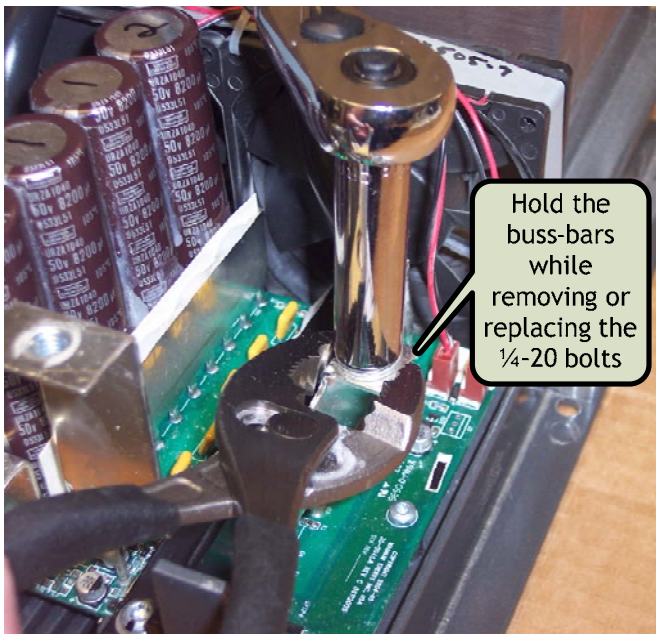
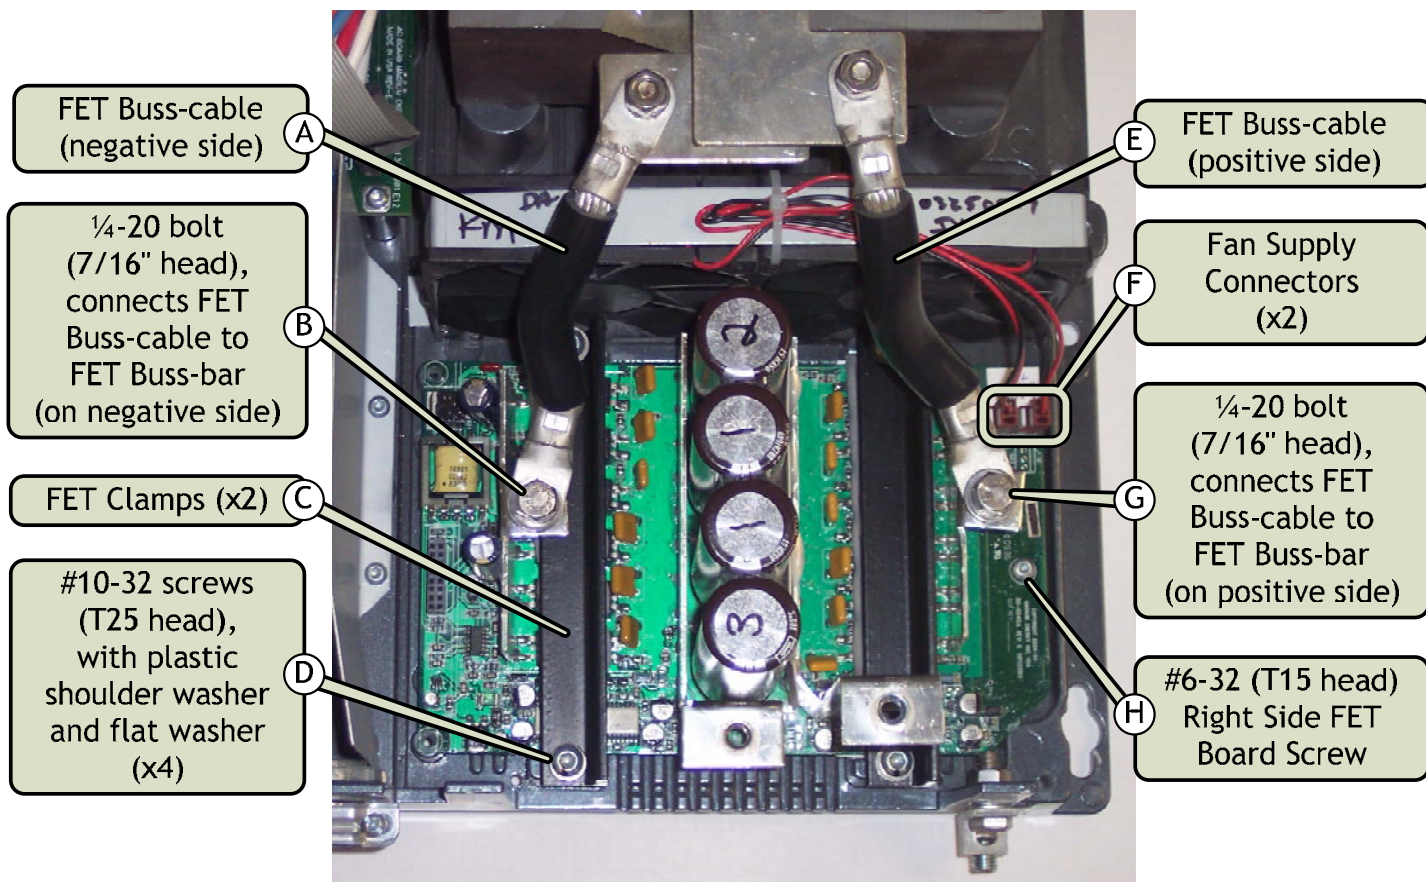

Figure 2, Preventing Buss-bars from twisting
Figure 7, Large FET Board Section
3.1.1 After removing the inverter's top cover, DC terminal plate and control board, locate and familiarize yourself with the components in the large FET board section; see figure 7.
3.1.2 Locate and remove the two ¼-20 bolts* (7/16" head) that connect the FET buss-cables to the FET buss-bars on the large FET board (see figure 7, items B and G). If repairing an MS series inverter, one of the ¼-20 bolts ((item B in figure 7) was previously disconnected when the control board was removed and will be reconnected when the control board is replaced. Use a pair of pliers to hold the FET buss-bar in-place to prevent it from twisting while these bolts are being removed; see figure 2.
3.1.3 Locate and disconnect the two fan supply connectors (figure 7, item F).
3.1.4 Locate and remove the #6-32 screw on the right side of the FET board (figure 7, item H).
3.1.5 Locate and remove the four #10-32 (T25 head) screws holding the FET clamps (figure 7, item D). These four screws with flat washers and shoulder bushings will not be reused; discard them or set aside to be returned if for warranty consideration.
3.1.6 Remove the two FET clamps (figure 7, item C). These FET clamps and any loose material will not be reused; place them aside to be returned if for warranty consideration; otherwise they can be discarded.
3.2.3 While holding the new FET board in place on the insulator pads, replace the #6-32 screw on the right side of the new FET board (figure 7, item H). This will help hold the new FET board and the insulator pads in place until the FET clamps are installed.
3.2.7 Reconnect the two ¼-20 bolts (7/16" head)* that connect the FET buss-cables to the FET buss-bars on the new FET board (see figure 7, items B and G). If repairing a MS Series inverter, do not screw in the ¼-20 bolt on the negative FET side (figure 7, item B) - this will be done when the MS Series control board is replaced.